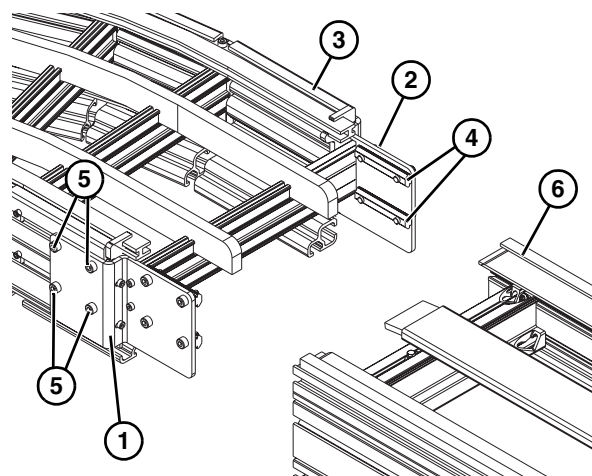

Figure 9
Typical Curve Connecting Components (**Figure 9**)
1. For joining curved to straight sections, install left offset connecting plate (**Figure 9, item 1**) and right offset connecting plate (**Figure 9, item 2**) onto curved section (**Figure 9, item 3**) with two drop-in tee bars (**Figure 9, item 4**) and four M6x16 socket head screws (**Figure 9, item 5**), making sure the straight frame section is flush to the curve section crossmember.
2. Secure straight section (**Figure 9, item 6**) onto curved section with the same hardware as previous step. Tighten all socket head screws to 60 in-lb (7 Nm).